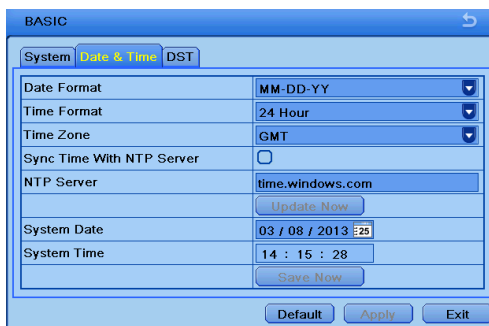

Fig 4-4 Basic Configuration-Date & Time
- ① Go to Main Menu→Setup→Basic →Date & Time interface. Refer to Fig 4-4.